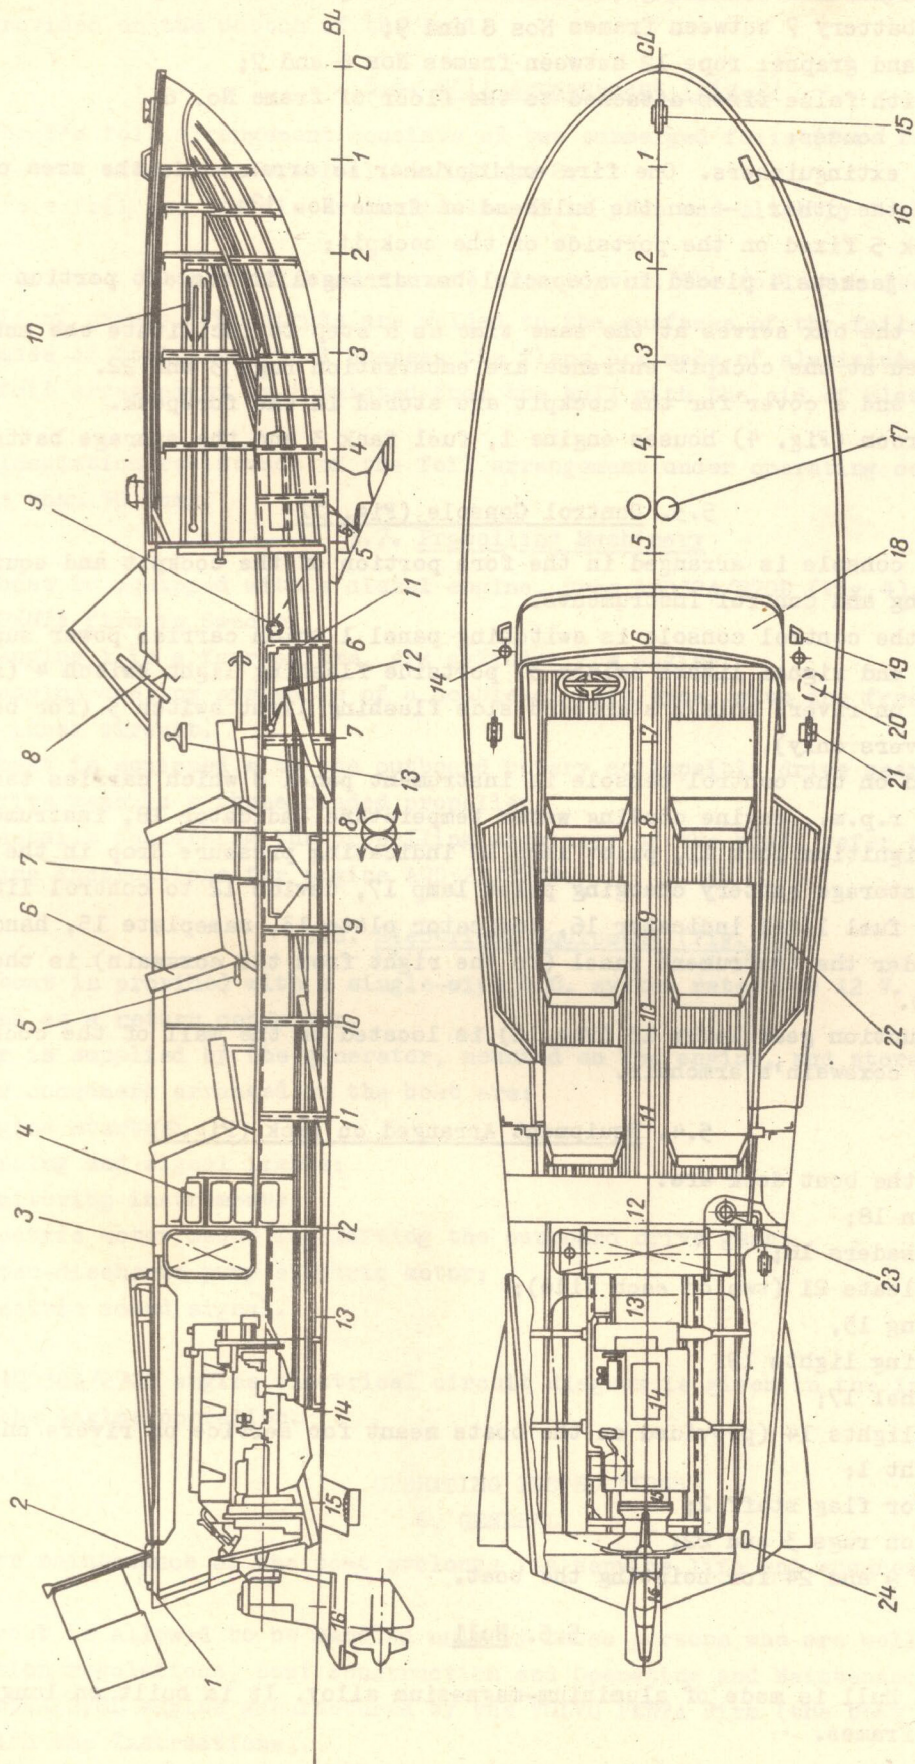

Fig.2. Outfitting and Finishing:
5.2. Outfitting and Finishing (Fig. 2)
Reverse reduction gear lever 13 (Fig. 2) is located on the wall of the cockpit, to the left from the coxswain's armchair.
5.4. Equipment Arranged on Deck (Fig. 2)